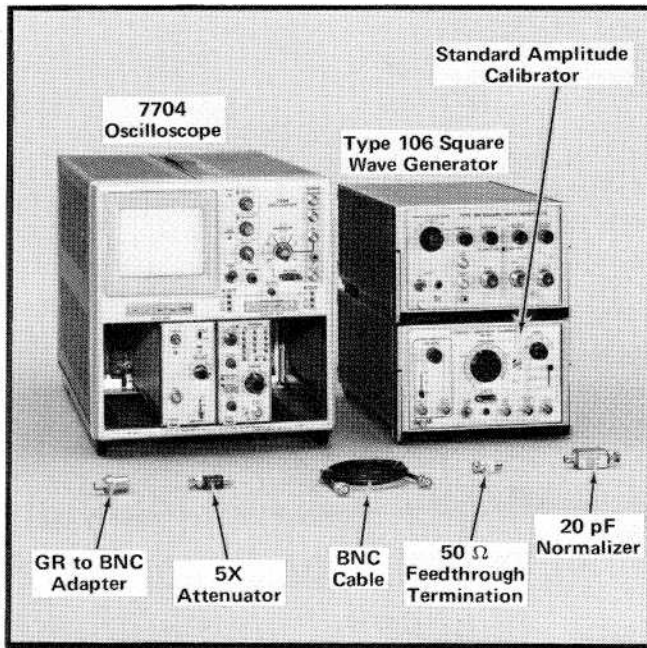

Fig. 5-1. Test equipment required for steps 1 through 10.
- a. Test equipment required for steps 1 through 10 is shown in Fig. 5-1.